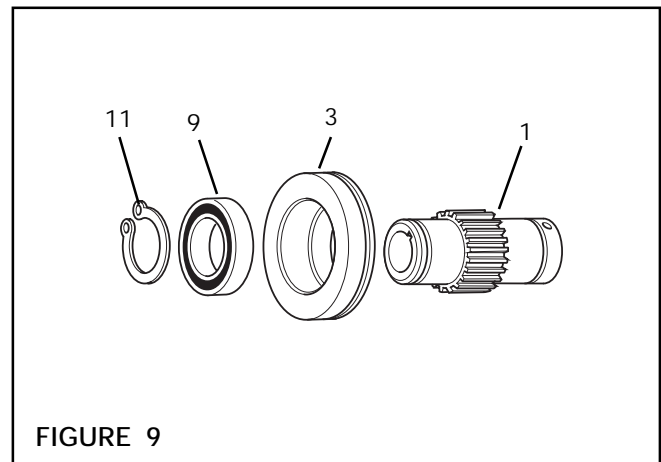

FIGURE 9
1. Remove Retaining Ring (Item 11) (See Figure 9).
2. Press Hub (Item 1) out of Piston (Item 3) and Ball Bearing (Item 9) (See Figure 9).